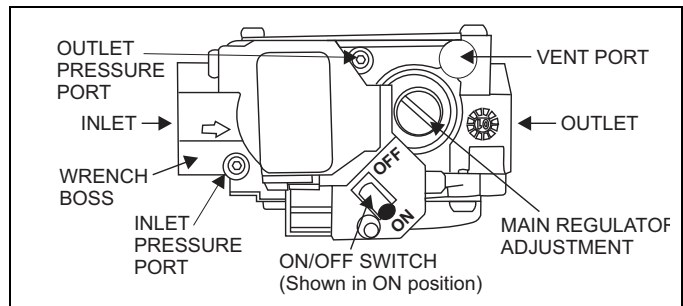

FIGURE 22: Gas Valve
Inlet and manifold gas pressure may be measured by connecting the "U" tube manometer to the gas valve with a piece of tubing. Follow the appropriate section in the instructions below. Refer to Figure 22 for a drawing of the locations of the pressure ports on the gas valve.
- 1. Refer to Figure 22 for location of pressure regulator adjustment cap and adjustment screws on main gas valve.